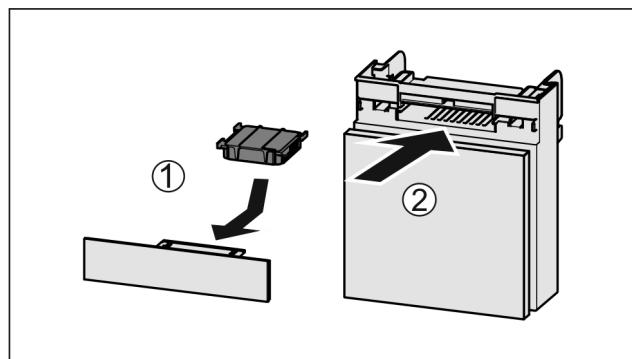

Fig. 172
- ▶ Insert the carbon filter as shown in the diagram Fig. 172 (1).
- ▶ Push the compartment in Fig. 172 (2).